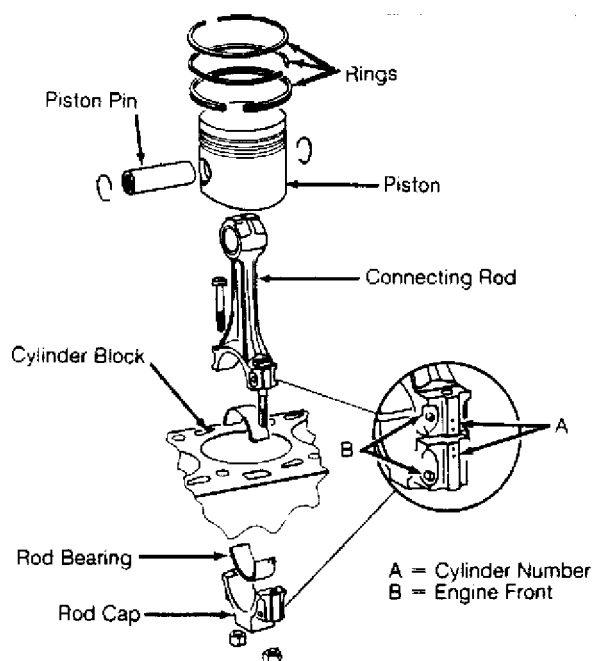

Fig. 16: Assembling Piston & Rod
1) Make sure piston, rod and rod caps are marked with matching cylinder number prior to removal. Ensure engine front arrow is marked on top of piston. See Fig. 16. Pistons and rods are to be replaced in sets of 4. Rod cap bolts and nuts must be replaced after removing or loosening.
2) Mark piston in relation to pin. Remove circlips from ends of pin bore. Use Piston Pin Replacer/Installer (VW 207C) to remove and install piston pin. If pin is too tight, heat piston to 140°F (60°C). Ensure rod is properly positioned with piston. See Fig. 16.
Measure ring end gap. Measure ring side clearance with piston. If not within specification, replace as necessary. See PISTONS, PINS & RINGS TABLE under ENGINE SPECIFICATIONS at end of article. Install rings on piston with TOP mark facing upward. Recessed edge on outside of center ring must face piston pin (down). Position ring ends. See Fig. 16.